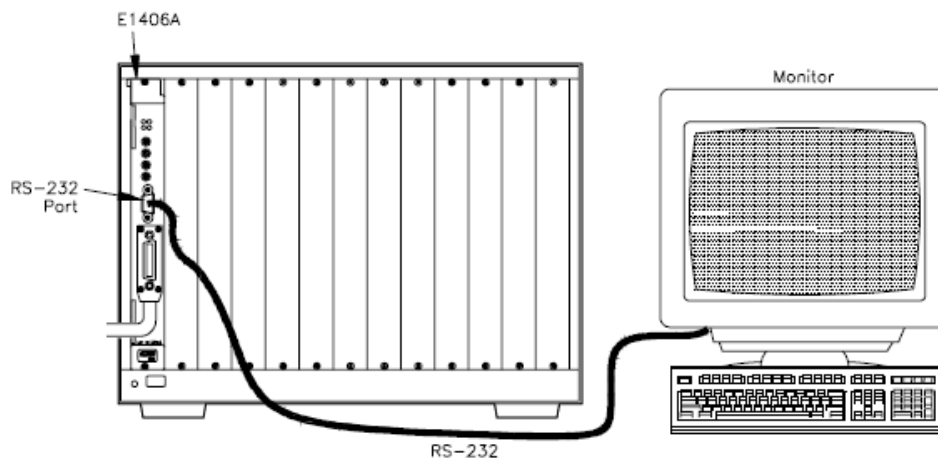

Figure 2-5 RS-232 Power-On Test
- Connect RS-232 terminal to command module (see Figure 2-5)